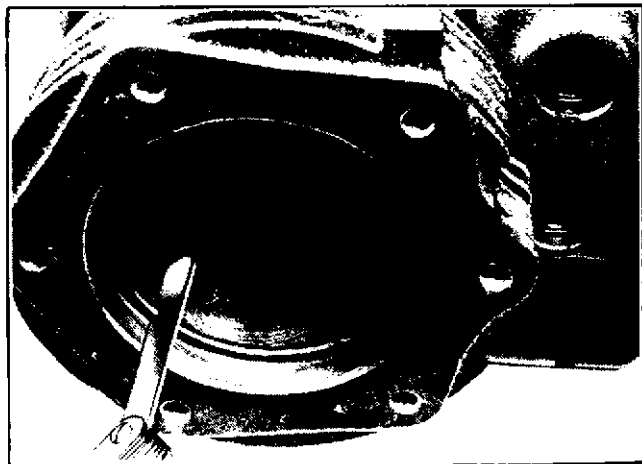

Figure 7-9. Checking Ring End Clearance in Bore
3. Before installing new rings on piston, place top two rings each in turn in its running area in cylinder bore and check end clearance. End clearance in a new bore is .010/.020". Maximum end clearance in used bore is .030" (see Figure 7-9).